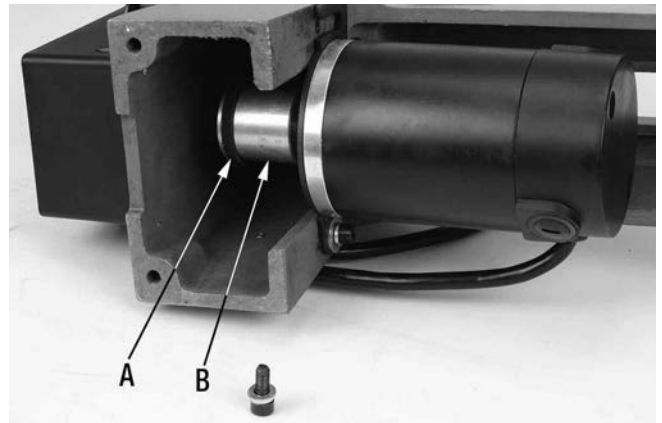

FIGURE 11
2. Position the wood lathe on its side, then pivot the motor towards the head to reduce the tension on the belt, remove belt (A) Fig.11 from around the motor pulley (B).